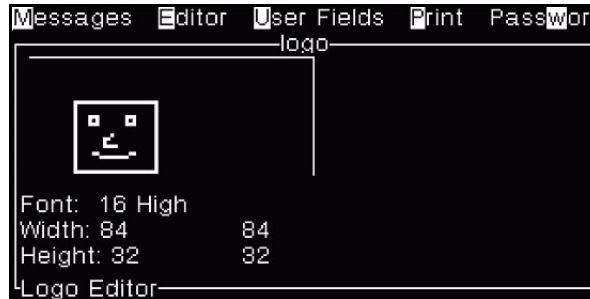

Figure 5-60: Crop Logo
- 1 Press the *Enter* key and a frame appears that shows the current boundaries of the graphic (Figure 5-60).